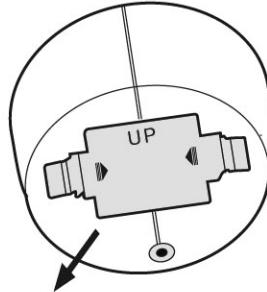

Figure.5
- Press the “key” on the battery compartment in the direction of the arrow, pull out the battery compartment cover (Figure.5). Note: the UP words is engraved on the battery compartment, don't mistake the direction.